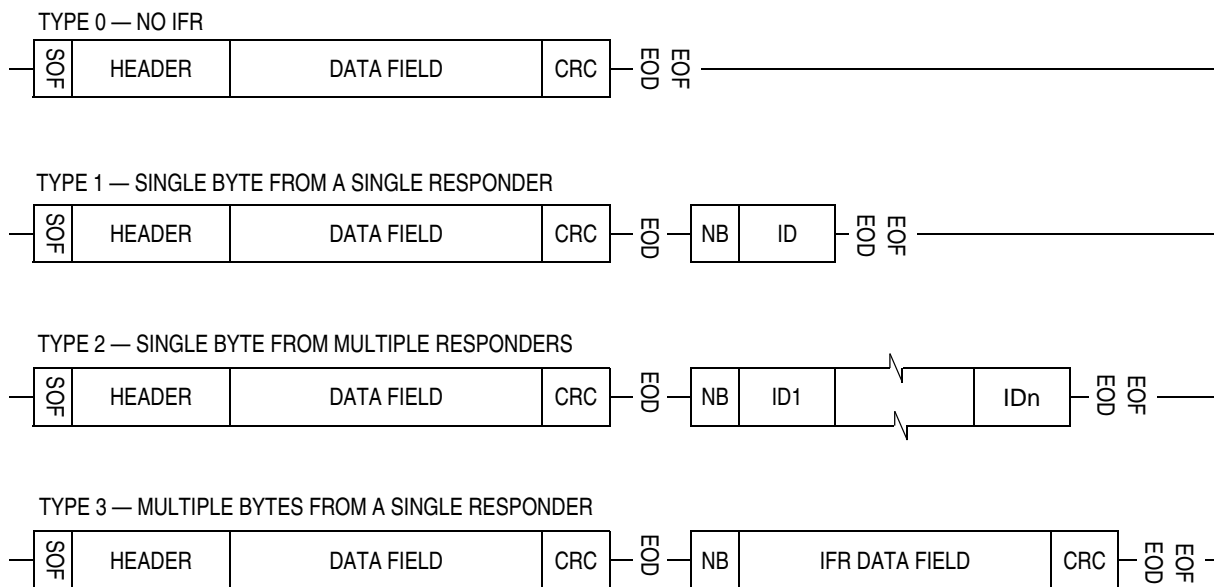

Figure 15-14. Types of In-Frame Response
This bit controls the format of the normalization bit (NB). (See Figure 15-14.) SAE J1850 encourages using an active long (logic 0) for in-frame responses containing cyclical redundancy check (CRC) and an active short (logic 1) for in-frame responses without CRC.
The BDLC supports the in-frame response (IFR) features of J1850. The four types of J1850 IFR are shown in Figure 15-14.
The TSIFR bit is used to request the BDLC to transmit the byte in the BDLC data register (BDR) as a single byte IFR with no CRC. Typically, the byte transmitted is a unique identifier or address of the transmitting (responding) node. See Figure 15-14.
Response IFR bytes are still subject to J1850 message length maximums (see 15.7.2 J1850 Frame Format and Figure 15-14).
The TMIFR1 bit requests the BDLC to transmit the byte in the BDLC data register (BDR) as the first byte of a multiple byte IFR with CRC or as a single byte IFR with CRC. Response IFR bytes are still subject to J1850 message length maximums (see 15.7.2 J1850 Frame Format and Figure 15-14).